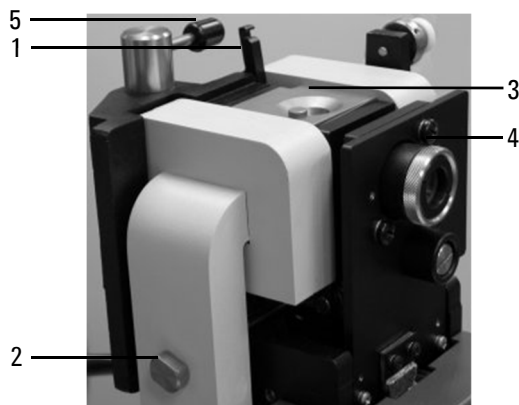

Figure 26. The Zeeman workhead
- 2** Flip up the latch (Figure 26, item 1) on top of the furnace.
- 3** Open the furnace using the lever (Figure 26, item 5) and remove the rubber skirt from the right side.
- 4** Loosen the magnet screw (Figure 26, item 2) a few turns.
- 5** Carefully pull the center block (Figure 26, item 3) of the furnace upwards and clear of the workhead. Leave the tubing in place.